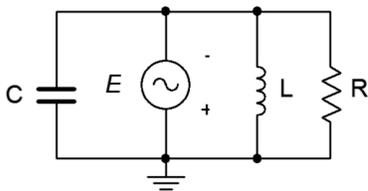

Figure 3.10
15. Determine all of the branch currents for the circuit shown in Figure 3.10 given  $E = 10$  volt peak sine,  $R = 220$ ,  $X_C = -j 500$ , and  $X_L = j 1.5 \text{ k}$ .